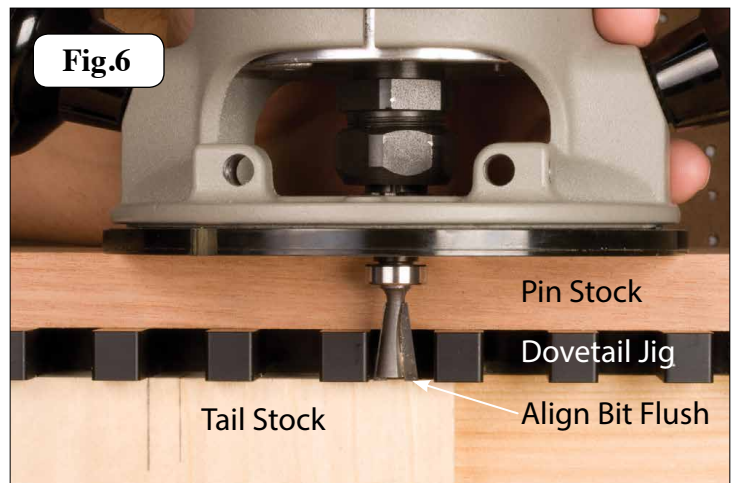

Fig.6
E. Place the dovetail router bit with bearing guide into your router and secure router bit collet tightly. Adjust the base of your router for depth of cut by adding the thickness of the pin stock piece plus $1/2''$ for the thickness of the dovetail jig. If desired, add an additional $1/32''$ or more for sanding the edge perfectly flush after assembly of joint. Another way of setting your bit height is to place your pin side stock on top of the jig. Place the router with bit on top of stock, with bit hanging over edge between the fingers of the jig. Now lower the router bit until it touches the top of the tail stock and then secure router bit in place. See **Fig. 6**